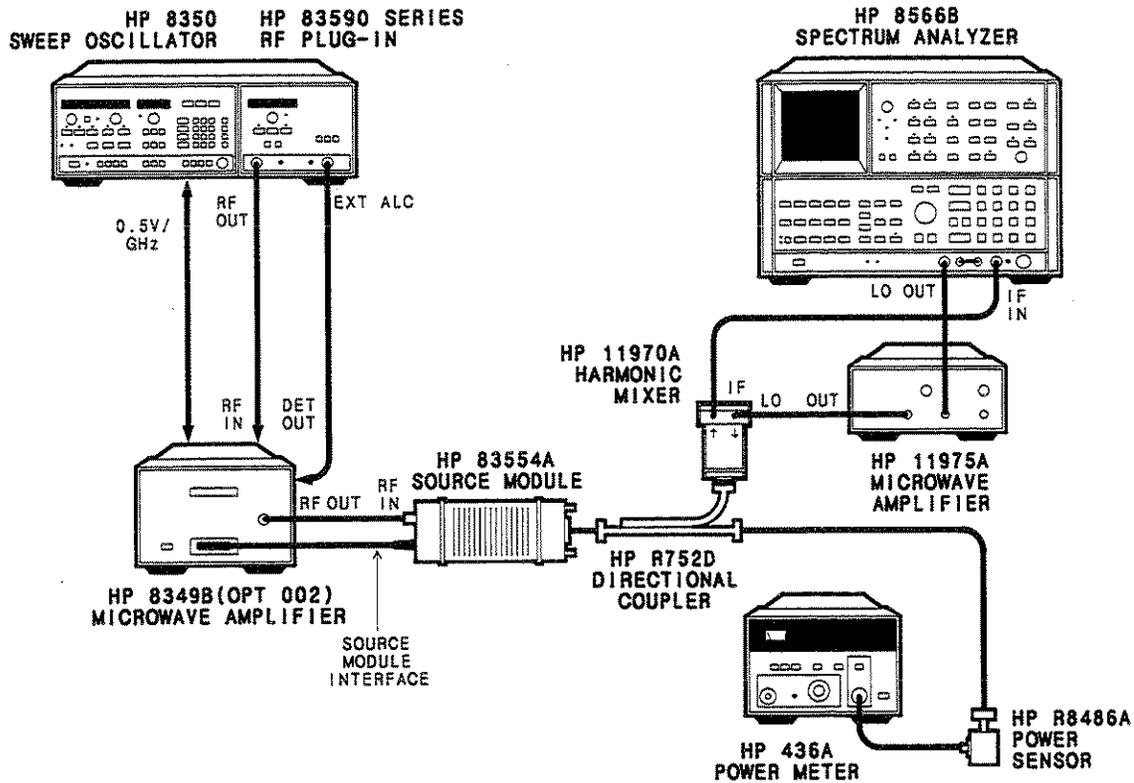

Figure 2-10. Spurious Signals Test Setup
The RF output signal from the HP 83590 Series/83554A system is tuned from 26.5 to 40.0 GHz and is displayed on a spectrum analyzer to verify that any harmonic spurious signals are at or below their specified levels. The test configuration in Figure 2-10 uses an external harmonic mixer to extend the frequency range of the spectrum analyzer. When this technique is used, the response is not pre-selected and multiple signals are displayed. Each response is examined not only for power level but whether or not it is a true in-band spurious signal by using the spectrum analyzer's signal identification function.
1. Connect the equipment as shown in Figure 2-10.
Because the test configuration in Figure 2-10 specifies that the external mixer be connected to the coupled arm of a 20 dB directional coupler, the coupled power must also be taken into account when calculating reference level offset. The new equation is as follows: